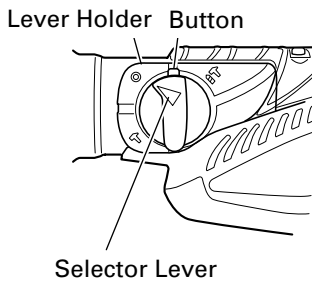

Fig. 8
(2) When fixing working positions of tools such as cold chisel, etc.,
- Align ▲ of the selector lever and ◎ of the lever holder as illustrated in Fig. 8.